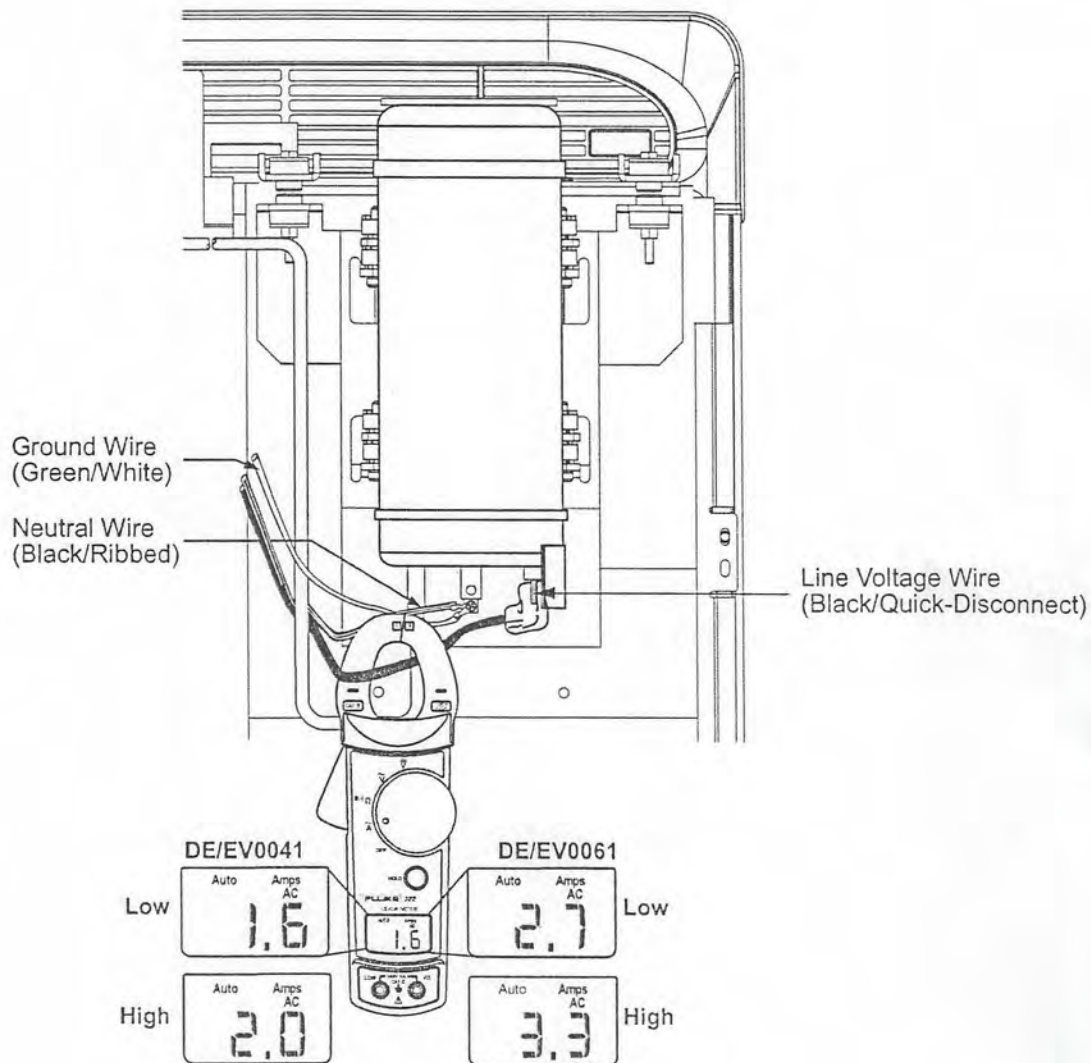

Figure 18. Checking compressor amp draw.
1. Connect power compressor power leads. See Figure 18.
4. Connect a clamp-on amp meter as shown in Figure 18. Minimum and maximum amp draw appear in Figure 18.